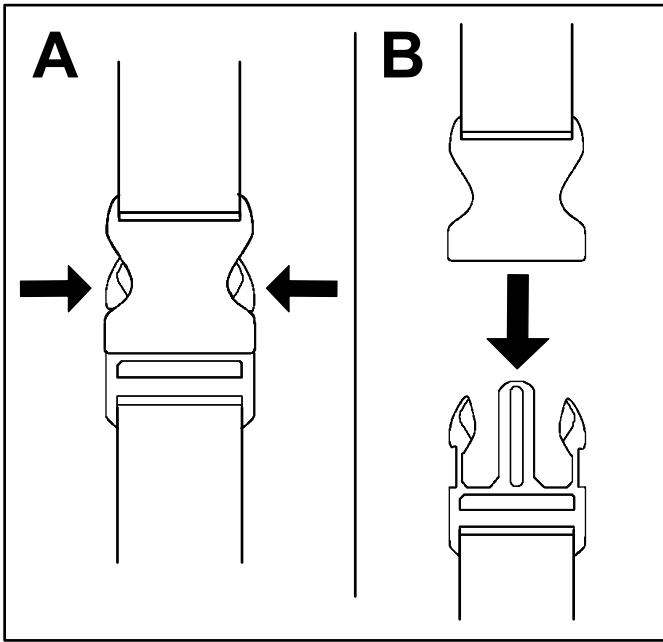

Figure 5
1. Press in on the sides of the buckle (A of Figure 5).
2. Allow the buckle to disconnect (B of Figure 5).